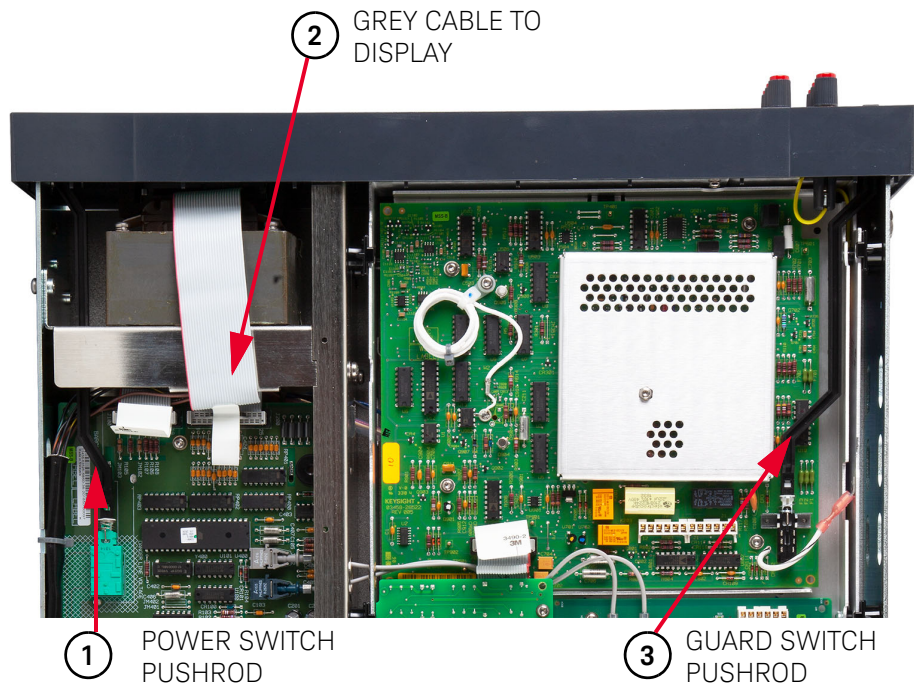

Figure 3-16 Guard and power pushrods, and display cable locations
- 3** Refer to **Figure 3-16**. Do the following:
- 15 Refer to Figure 3-16. Do the following: